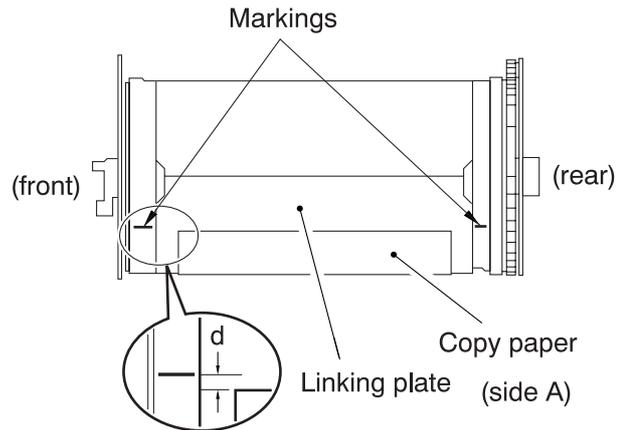

Figure 2-7
- 6) Place a ruler and copy paper against the marking (Figure 2-7) etched to the transfer drum ring (front, rear), and measure the position  $d$  of the copy paper in relation to the leading edge of the copy paper. Perform this for both sides A and B.